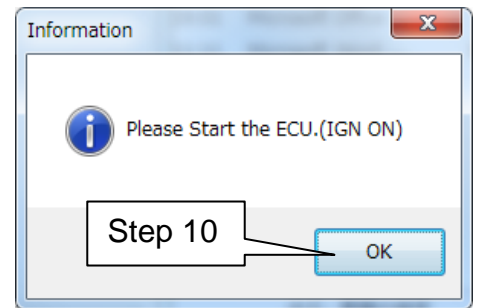

Figure 4
- **After selecting OK in Figure 4, the OCS reprogramming will start.**